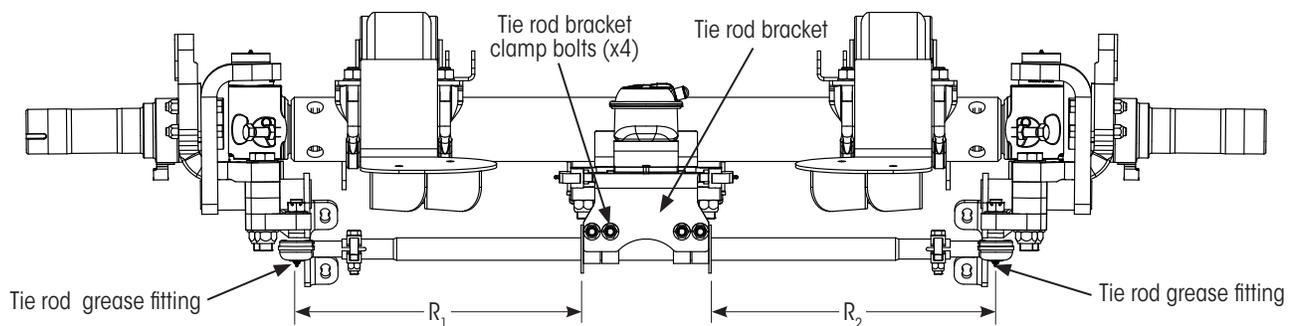
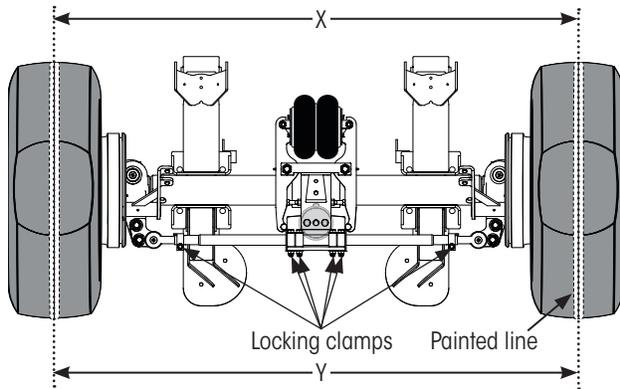

Figure 30: Tie rod end clamp orientation
Figure 31: Toe Measurements (bottom view)
- D. **Measure** to ensure, in Figure 30, $R1=R2\pm 0.09$ inch (2.3 mm).
3. While rotating wheel, **paint** a line around the center of the tire tread, full circle (Figure 31).
10. **Loosen** all tie rod locking clamps Figure 31. Skip this step if already loose.
4. **Verify** $R1 = R2 \pm .09$ inches (± 2.3 mm) (FIGURE 31: TOE MEASUREMENTS (BOTTOM VIEW) on page 23). **Tighten** tie rod bracket clamp bolts (Figure 30) to 95 ± 5 ft. lbs. (130 ± 5 Nm) of torque.